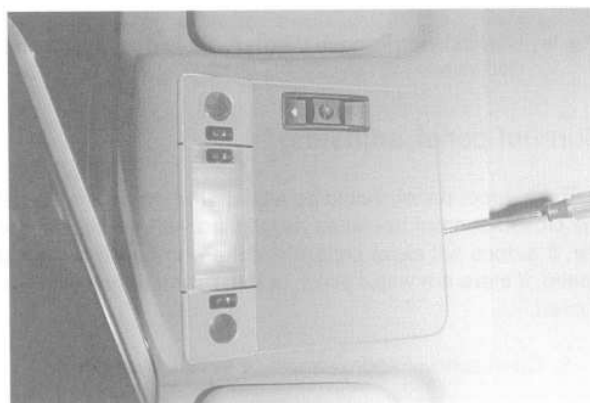

Fig. 2. Sunroof panel access cover being removed.
1. Remove access panel from below sunroof motor. See Fig. 2.